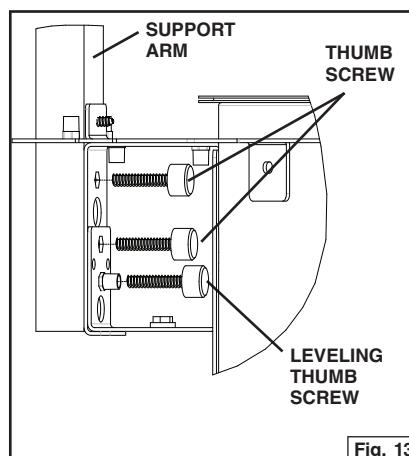

Fig. 13
7. Continue to attach arm to power unit with (2) M4 x 24mm thumb screws. Attach a third M4 x 24mm thumb screw to the threaded insert in the power unit flange. This screw will be used to level the power unit later . Fig. 13.